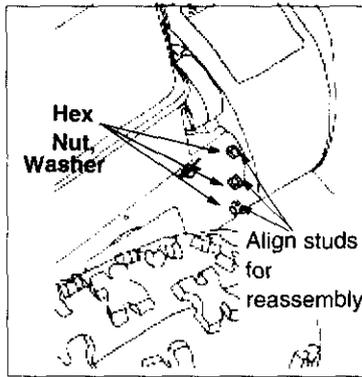

Figure 25
- Remove the six hex nuts and lock washers which attach the auger housing assembly to the frame assembly. See Figure 25.
- Level the frame assembly and tip the auger housing forward to align studs with the corresponding holes on both sides of the frame assembly. See Figure 25. Push the frame assembly fully on to the studs.
- From the frame assembly side, insert six lock washers and hex nuts on to the studs. These pieces of hardware were removed earlier. See Figure 25. Tighten the nuts securely.